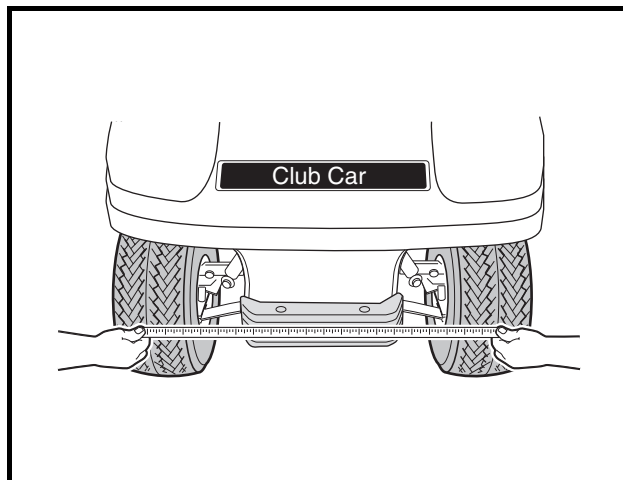

Figure 7-18 Check Toe-In
- Measure the distance between the marks on the rear-facing surfaces of the tires, and then roll the vehicle **forward** one and one-half wheel revolutions until the marks appear on the forward facing surfaces of the tires at about the same height from the floor (**Figure 7-18, Page 7-15**).